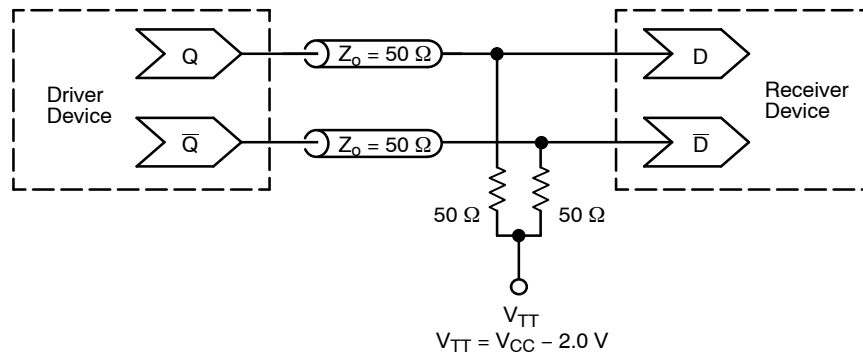
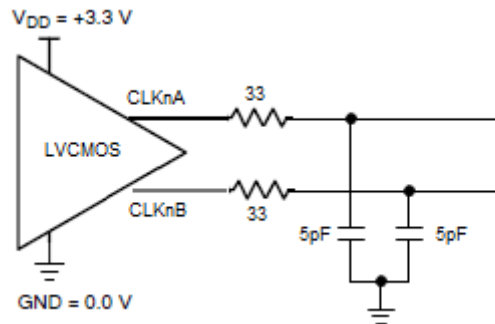

Figure 9. Typical Termination for LVPECL Output Driver and Device Evaluation (See Application Note AND8020/D – Termination of ECL Logic Devices.)
Figure 11. Typical LVCMOS Output Test Setup for Evaluation
- 13. Measured by using a 25 MHz crystal as clock source. All LVPECL outputs are loaded with an external $R_L = 50\ \Omega$ to $V_{DDO} - 2\text{ V}$ (Figure 9); LVC MOS outputs loaded with $R_S = 33\ \Omega$, $C_L = 5\text{ pF}$, 5" 50 Ω trace, (Figure 11).